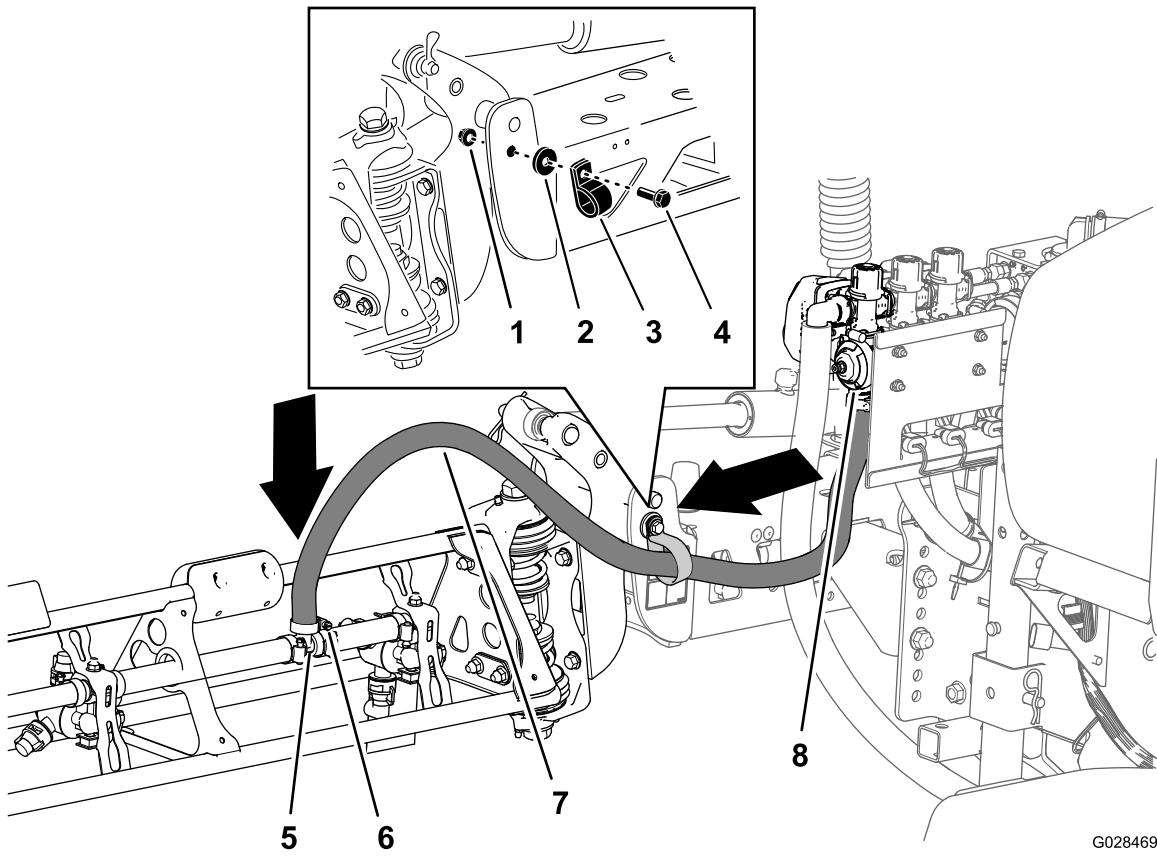

Figure 43
1. Route the boom-section hoses as shown in Figure 42 and Figure 43.
2. Secure the boom hoses to the front side of the center boom section (Figure 42 and Figure 43) with 1 R-clamp, 1 shouldered bolt (5/16 x 1 inch), 1 locknut (5/16 inch) and 1 washer (5/16 inch).
3. Install the boom section hose over the barbed T-fitting at the boom section and secure the hose with a hose clamp (Figure 42 and Figure 43).